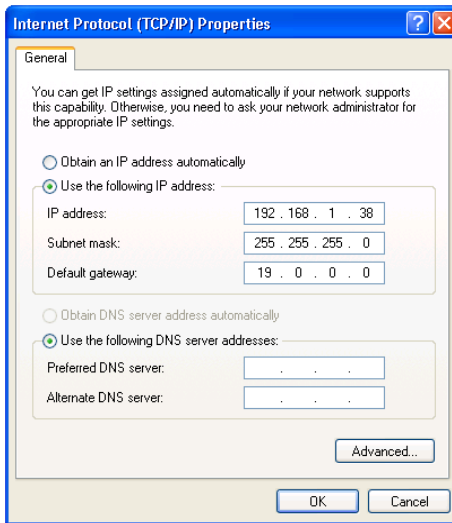

Figure 10: Internet Protocol (TCP/IP) Properties Window
7. Select **Use the following IP address**, and fill in the details as shown in Figure 10.